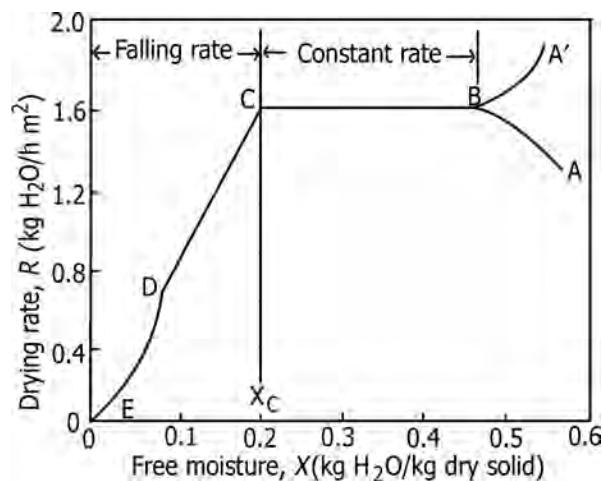

FIGURE 18.25 Typical drying rate curve for constant drying conditions.
- A plot of rate of drying versus free moisture content is known as drying rate curve (Figure 18.25).
- From point B to C in Figure 18.25, the line is straight, and hence the slope and rate are constant during this period. This constant rate of drying period is shown as line BC.
- Point C in Figure 18.25 is *critical moisture content*, X_C , which represents the point of transition from constant rate to falling rates. From point C, the drying rate starts to decrease.
- The falling rate period has two sections as seen in Figure 18.25.
- In this first falling rate period, the rate shown as line CD in Figure 18.25 is often linear.